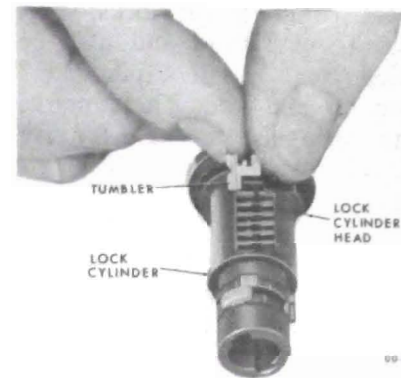

Figure 00-9 - Installing Tumblers
1. Hold cylinder with head of cylinder away and starting at the head of the cylinder, insert the tumblers in their proper slots in the order called for by the code, ribbed side toward you and long point down. See Figure 00-9.